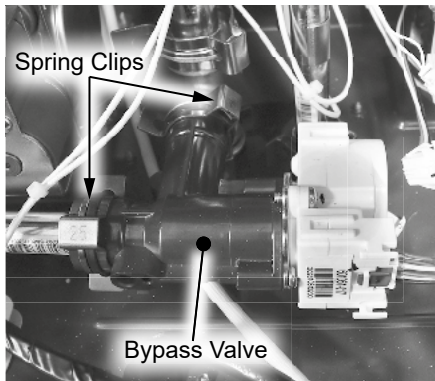

Figure 5 - Bypass valve location
17 Locate the bypass valve at the bottom front side of the water heater as shown in Figure 5. Disconnect the wiring harness from the valve.
18 Remove the two (2) spring clips (size 25) securing the bypass valve to the piping system. Remove the bypass valve from pipe connections. Place components aside in a safe place for reinstallation. See Figure 5.